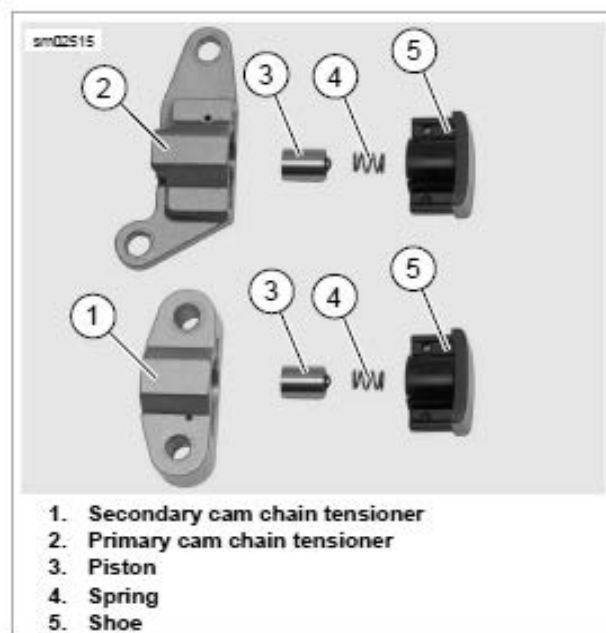

Figure 3-99. Cam Chain Tensioner Assemblies
The hydraulic tensioners must be assembled as shown in figure 3-99 on page 3.
- b. See Figure 3-99. Be sure primary and secondary cam chain tensioners are assembled as shown. If assembled incorrectly, tensioners will not function properly.